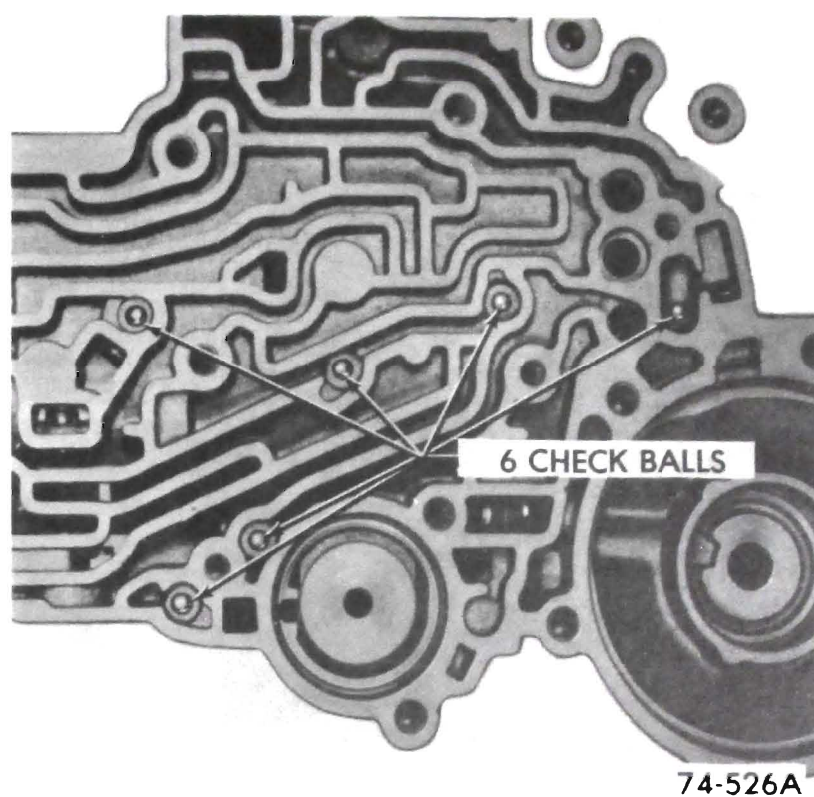

Figure 76-266
2. Install six check balls into ball seat pockets in transmission case. See Figure 76-266.